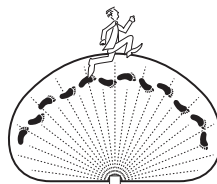

Figure 6
- Walk through the coverage area noting where you are when the lights turn on. Also, the red LED behind the motion sensor lens will flash several times when motion is detected (see Figure 6).